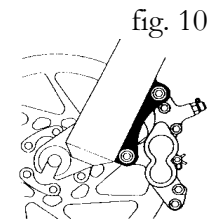

fig. 11
- (1) If your bike has rim brakes, disengage the brake's quick-release mechanism to open the clearance between the wheel rim and the brake pads (See Section 4.C fig. 11 through 14).
- (1) Shift the rear derailleur to high gear (the smallest, outermost rear sprocket).
- (2) If your bike has rim brakes, disengage the brake's quick-release mechanism to open the clearance between the wheel rim and the brake pads (see Section 4.C, figs. 11 through 14).
- (3) Pull the derailleur body back with your right hand.
- (1) If your bike has rim brakes, disengage the brake's quick-release mechanism to open the clearance between the wheel rim and the brake pads (see Section 4.C, figs. 11 through 14).
- (2) Using a correct size wrench, loosen the two axle nuts.
- (1) If your bike has rim brakes, disengage the brake's quick-release mechanism to open the clearance between the wheel rim and the brake pads (see Section 4.C, figs. 11 through 14). Shift the rear derailleur to high gear (the smallest rear sprocket) and pull the derailleur body back with your right hand.
- (2) Using a correctly sized wrench, loosen the two axle nuts.
- (3) Lift the rear wheel off the ground a few inches and, with the derailleur still pulled back, push the wheel forward and down until it comes out of the rear dropouts.
Most brakes have some form of quick-release mechanism to allow the brake pads to clear the tire when a wheel is removed or reinstalled. When the brake quick release is in the open position, the brakes are inoperative. Ask your dealer to make sure that you understand the way the brake quick release works on your bike (see figs. 11, 12, 13 & 14) and check each time to make sure both brakes work correctly before you get on the bike.
- **Some bicycle brakes, such as disc brakes (fig. 10) and linear-pull brakes (fig.11), are extremely powerful. Take extra care in becoming familiar with these brakes and exercise particular care when using them.**